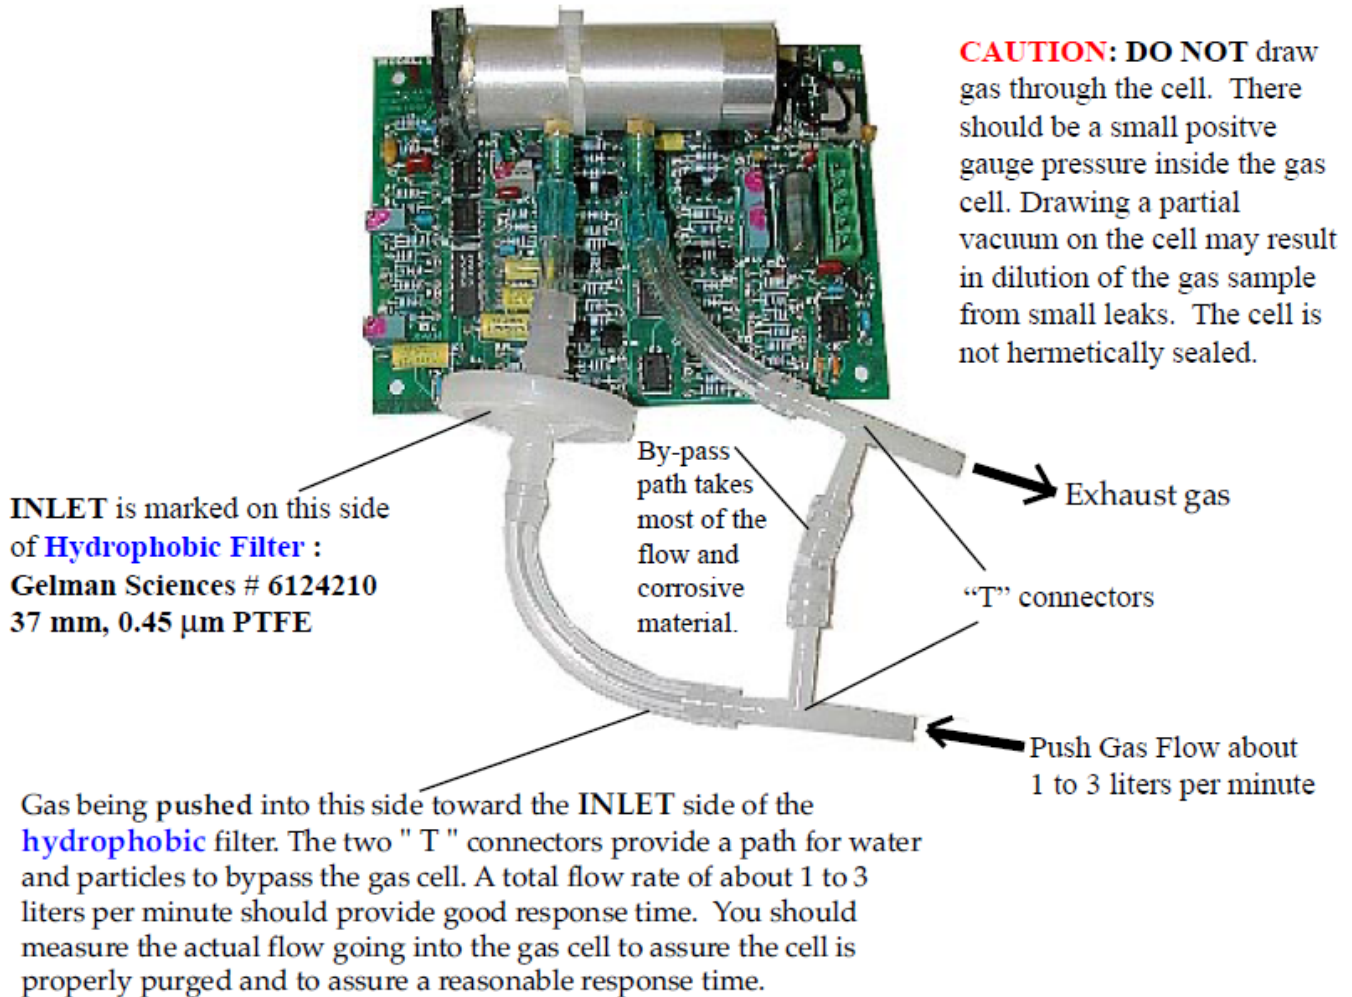

FIGURE 8
3. See Figure 8. This setup improves Zero Stability and sensor life.